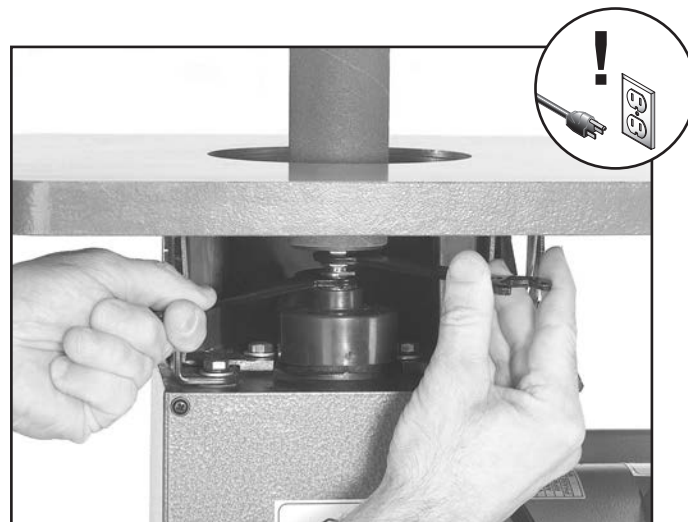

Figure 7. Installing spindle.
4. Use the supplied open end wrenches to secure the spindle as shown in **Figure 7**.